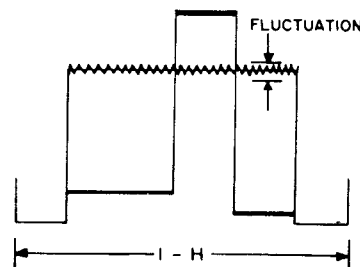

Figure 4-1. PVR501 Alignment
- Adjust PVR501 to obtain a minimum fluctuation (A straight line) in figure 4-1.